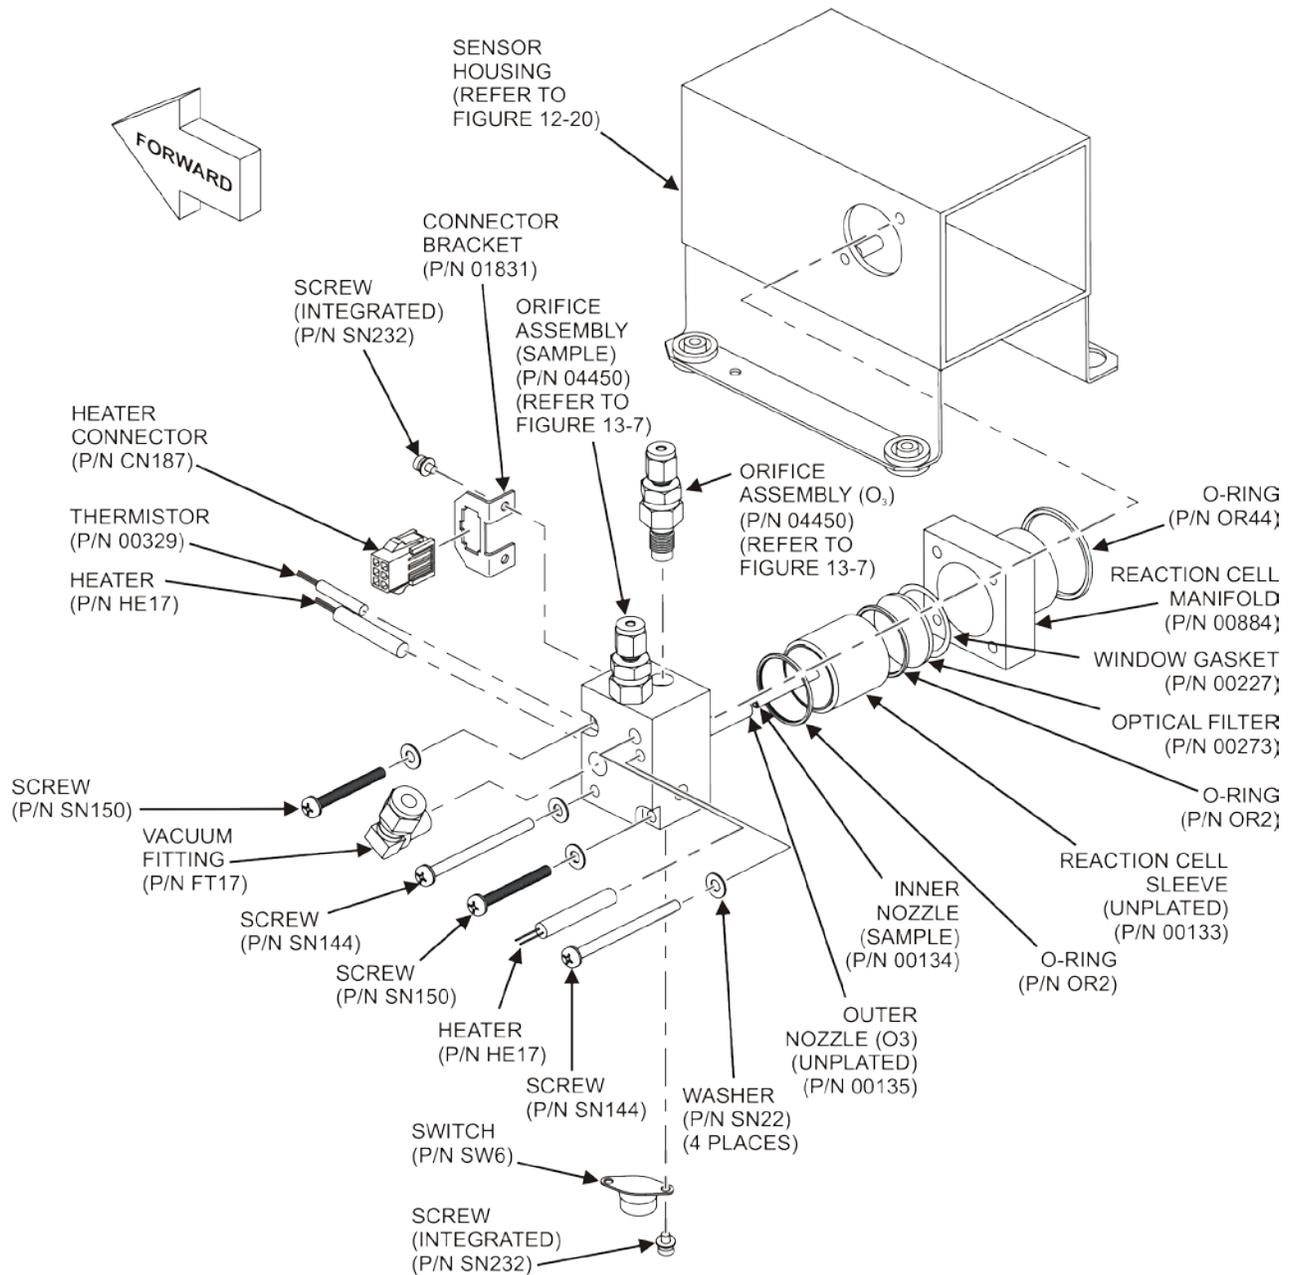

Figure 11-6: Reaction Cell Assembly
1. Turn off the instrument power and vacuum pump. Refer to Figure 11-6 for the following procedure.
2. Remove the analyzer cover and locate the reaction cell (Figure 11-5 and Figure 11-6).
4. For orifices on the reaction cell (Figure 11-6): Unscrew the orifice holder with a 9/16" wrench.